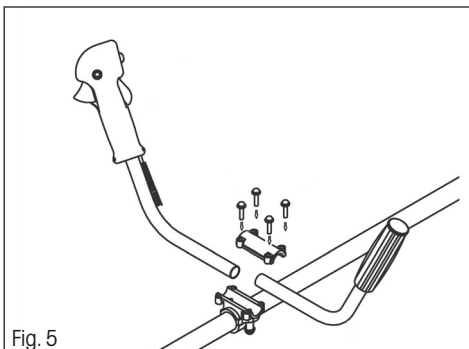

Fig. 5
- ❁ Install the handle into the mount (see fig. 5). The handle can be moved along the shaft. In this way, everybody can select the ideal comfortable working position. After selecting the ideal working position, tighten the screws. Fasten the control cable to the shaft using the supplied draw bands.